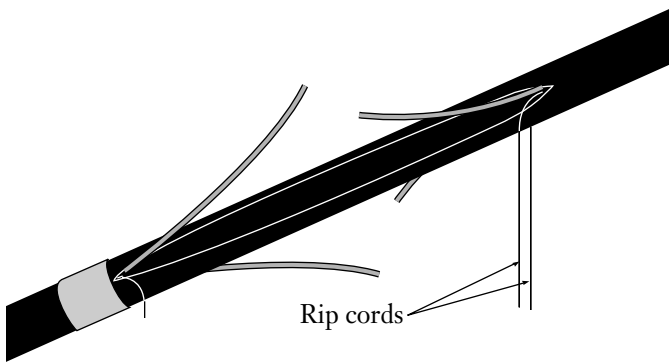

Figure 28
7.8 Locate the rip cords under the steel rods. Cut the outer rip cords near the tape mark (Figure 28).